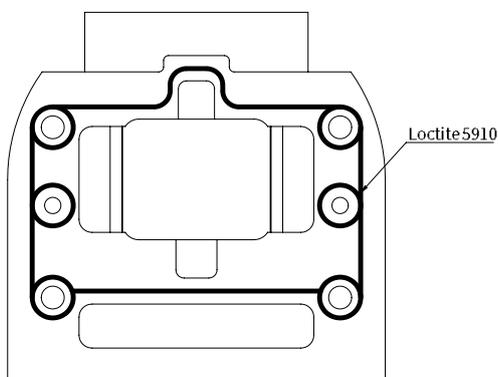

Fig. 13.24
- Apply Loctite 5910 to face of housing see Fig. 13.24 and bring assemblies together